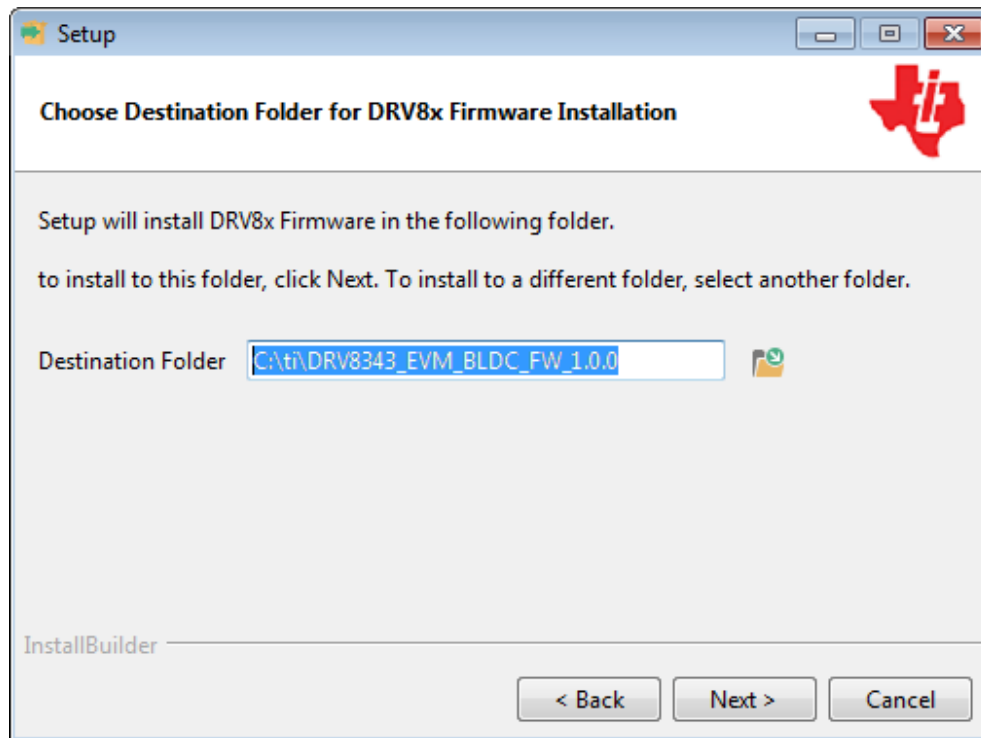

Figure 12. Setup Destination Folder
- Step 5. Choose the destination location for the example CCS projects and the documentation (see Figure 12). This destination can be set to any location in the PC.